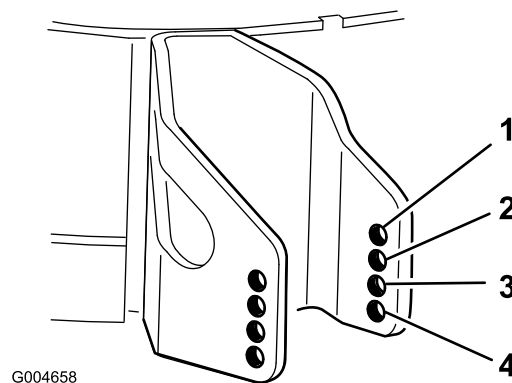

Figure 23
- Select a hole so the anti-scalp roller is positioned to the nearest corresponding height-of-cut desired (Figure 23).